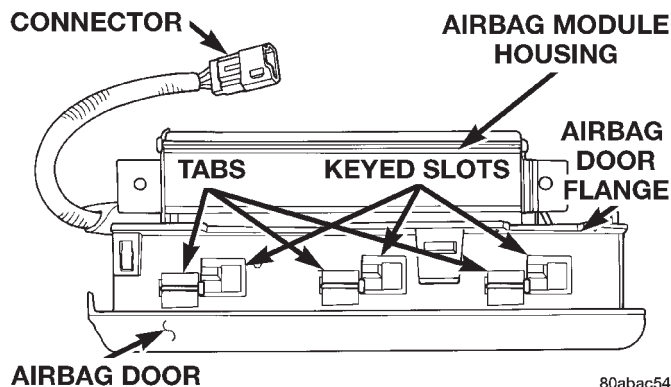

Fig. 11 Passenger Side Airbag Door Remove/Install
(1) Disconnect and isolate the battery negative cable. If the airbag module has not been deployed, wait two minutes for the system capacitor to discharge before further service.
(2) Remove the passenger side airbag module from the instrument panel as described in this group.
(3) With the airbag module on a bench, slide the airbag door sideways until the keyed slots in the upper and lower airbag door flanges clear the three tabs on the top and the bottom of the airbag housing (Fig. 11).